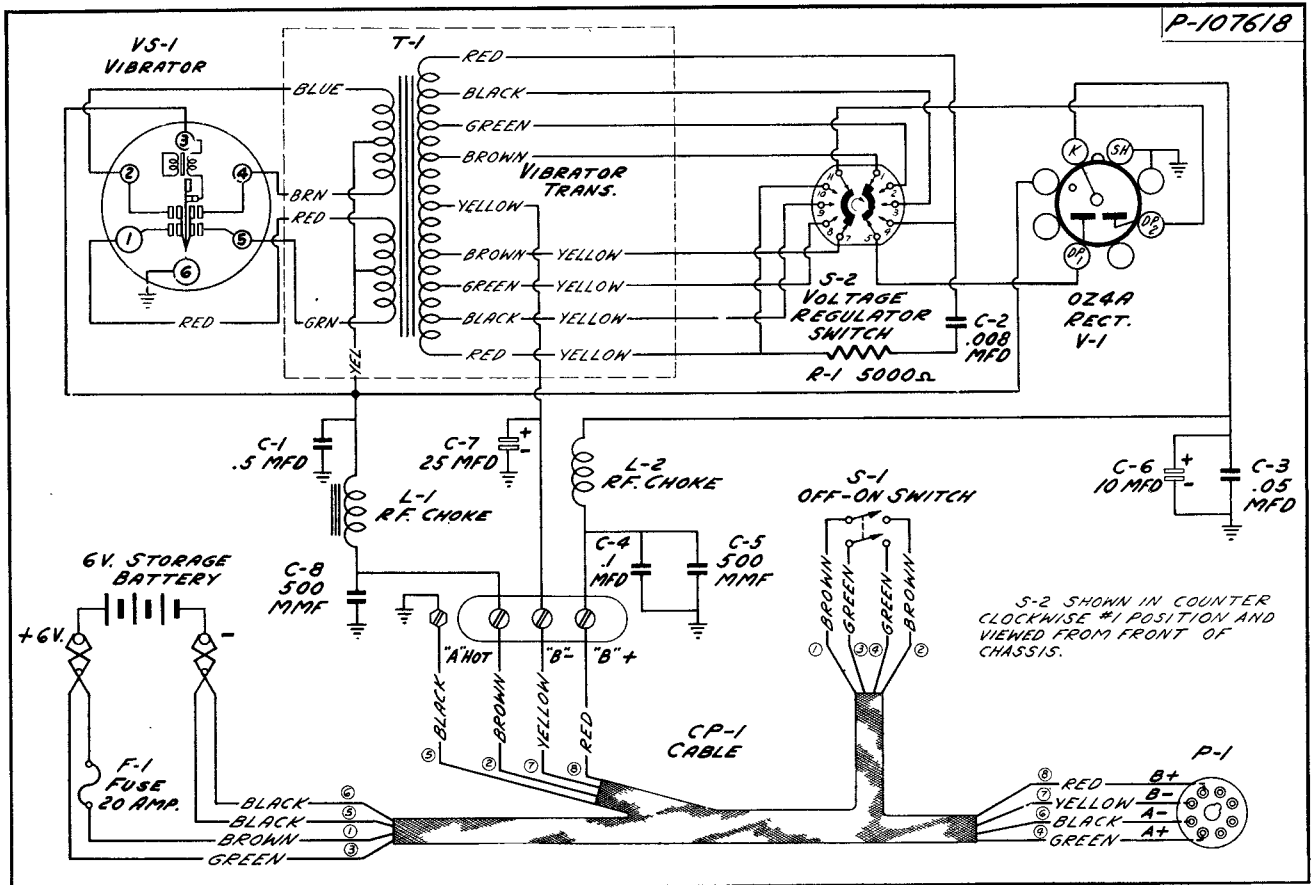

Figure 5.—Vibrator Power Supply — MI-22215 — Schematic Diagram.
7.5 Maintenance:—A schematic diagram of the vibrator power supply unit is shown in Figure 5. The diagram symbol of each part is repeated in the parts list to facilitate identification by means of cross reference. Service generally consists of replacing the vibrator which may have deteriorated through prolonged usage. If excessive output hum should occur during operation, the cause may be a filter-circuit breakdown, such as leaky or short-circuit filter capacitors. When servicing the power supply unit, disconnect it from its source of voltage supply and, using an ohmmeter, check through for continuity. Capacitors should be tested by first removing one side from the adjacent connections so that the capacitor under test is not connected in the circuit.